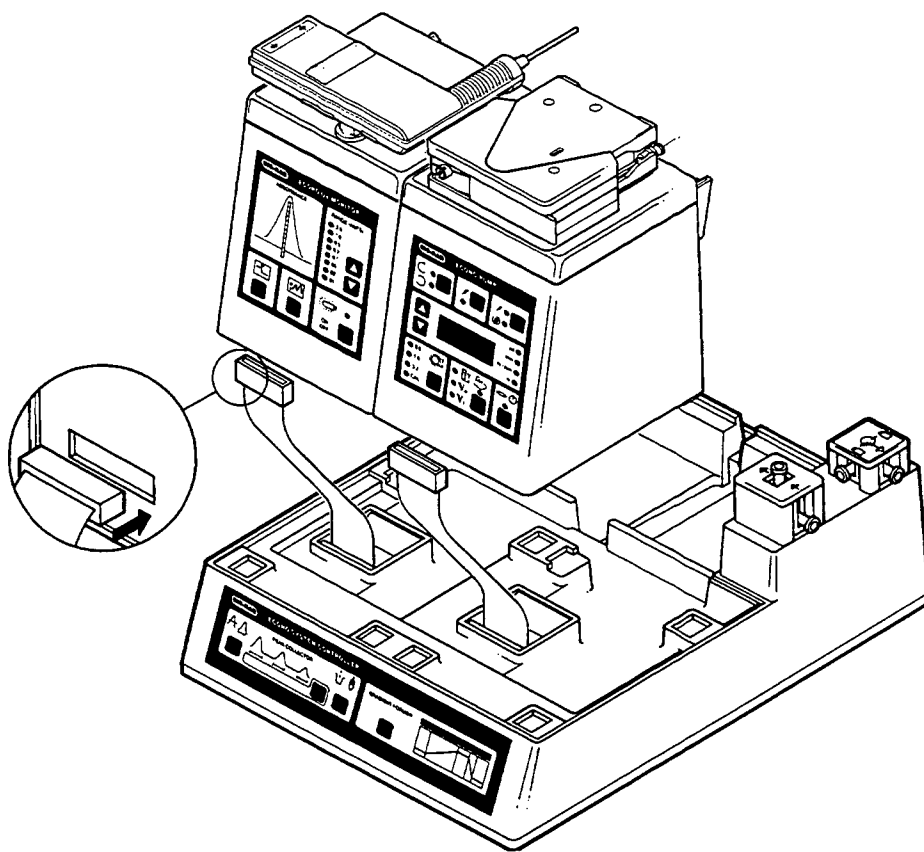

Fig. 4.2. Connection of Model EP-1 Econo Pump and Model EM-1 Econo UV Monitor to Econo System controller.
2. Holding the connector in one hand, lean the pump forward with the other hand and make the connection shown in Figure 4.2.
3. Set the pump on the system controller, placing the feet in the areas indicated in Figure 4.2. Make sure the cable feeds back into the system controller. No other connection is required between the pump and system controller.
2. Follow steps 1 through 3 in Section 4.1 for connection of the UV Monitor as shown in Fig. 4.2.